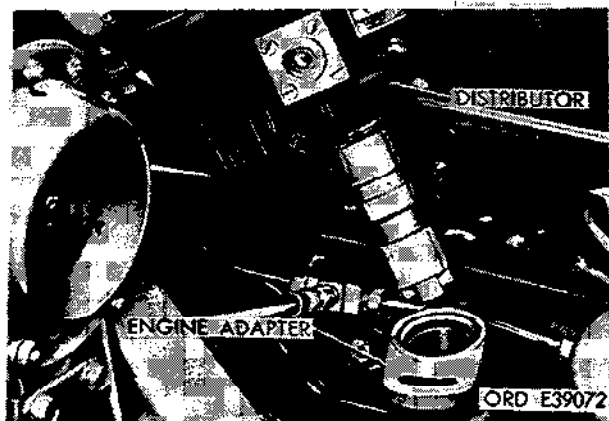

Figure 2-148. Lift distributor out of adapter.
(4) Lift distributor out of adapter (fig. 2-148).
b. Installation. Install distributor on the vehicle by reversing removal operations. Refer to figures 2-148 back to 2-145. After installing distributor, perform ignition adjustment operations as described in paragraph 2-71.